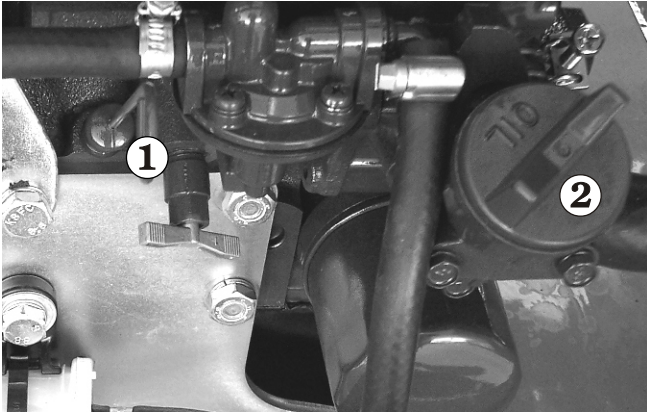

Figure 7.6 - Engine Oil Level
Keep the oil level between the marks on the dipstick **1** (see Figure 7.6).
The distance between the top and bottom dipstick marks corresponds to about 1 qt. (one (1) liter). Add oil, if needed at the cap **2** (see Figure 7.6), there is an alternative filler cap on top of the engine.